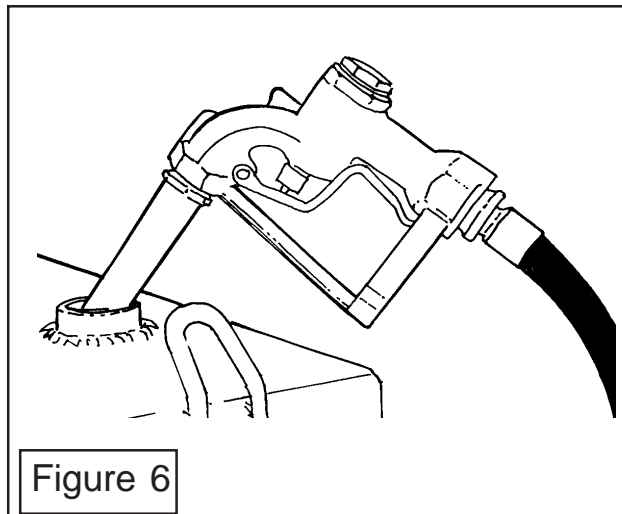
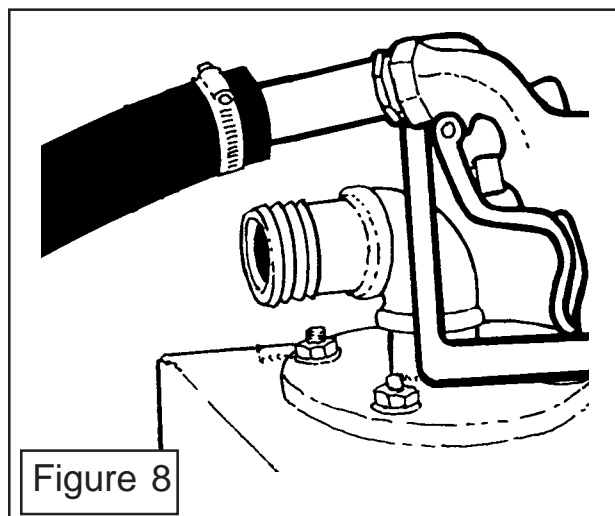

Figure 6
Figure 8
5. Fill Suction Hose with Oil. To Prevent the pump from a dry start up remove the suction hose at the tank, this clamp should have been left loose from earlier (See Figure 6). Fill the Suction Hose with hydraulic fluid so that the oil will run down into the pump, and reinstall on Hydraulic Tank. Tighten hose clamp securely (See Figure 8 & 9)